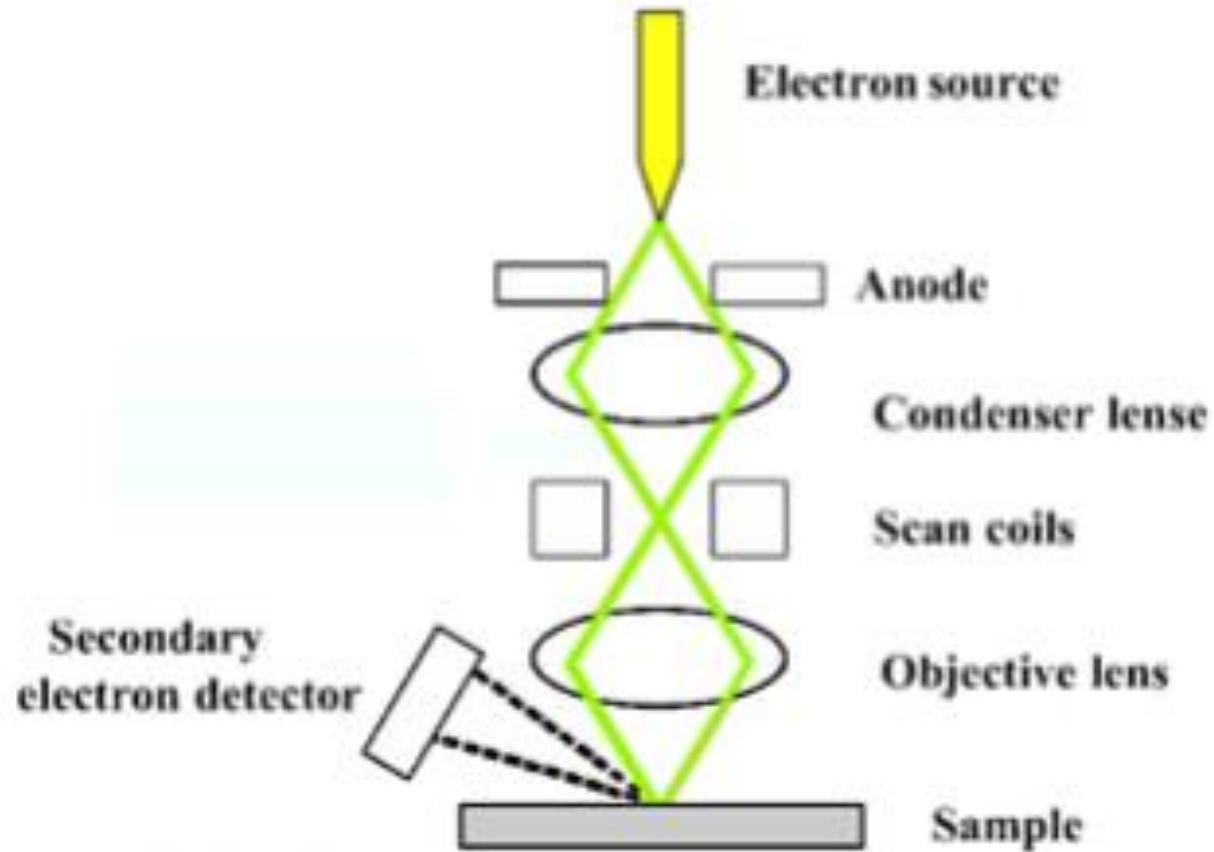

Figure 1: schematic representation of the basic SEM components
- Let's focus on a SEM. A schematic representation of the technology of a SEM is shown in Figure 1 below.
- The scanning electron microscope's lens system also contains the **scanning coils**, which are used to raster the beam onto the sample. In many cases, **apertures** are combined with the lenses in order to control the size of the beam. These main components of a typical SEM instrument are shown in Figure 1.